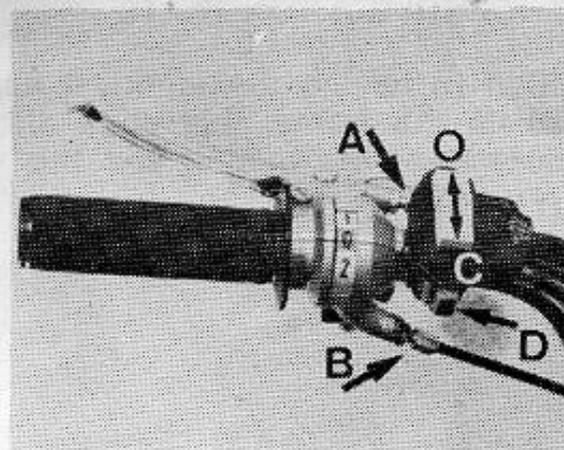

Fig. 4
In all of the 2 speed CASAL vehicles, the gear selector is of the hand grip type, situated on the left hand side of the handlebars. (Fig. 4).
The clutch is brought into play by the action of the clutch lever situated on the left hand side of the handlebars. There should exist a play of 5 to 8mm and can be adjusted by A (Fig. 4). To bring the clutch into action, squeeze the clutch lever on the handlebars. For correction in the adjustment of the gears, use the adjustor B (Fig. 4).
The «O» mark shown in (Figs. 4) and (5), marks the position of neutral which occurs between 1st and 2nd gears.
### LIGHT SWITCH (Fig. 4)
The horn may be sounded by pressing button «D» (Fig. 4).
The CASAL motor is equipped with constant mesh gears in the wedge formation. The gear selection is made with the help of a mobile shaft which causes 4 ball bearings mounted on the gear shaft, to engage the respective gear. The gear selector is brought into play by the lever (Fig. 9) which in turn is activated by a steel cable connected to the twist grip on the handlebars (Fig. 4).